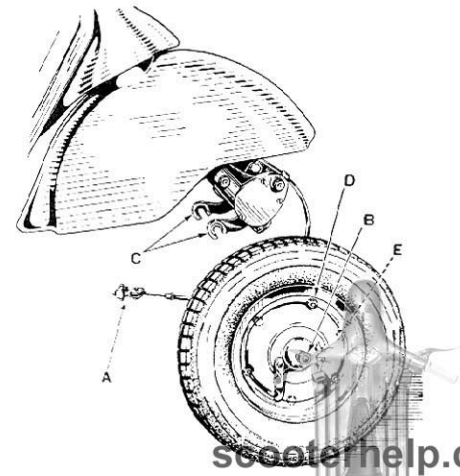

Fig. 5
To remove the front wheel (fig. 5), first disconnect the brake control cable (A); then loosen the two cap nuts (B) fastening the wheel to the trailing links (C); place the washers under the nuts, located within the trailing links. To remove the rim from the hub, loosen the three cap nuts (D).